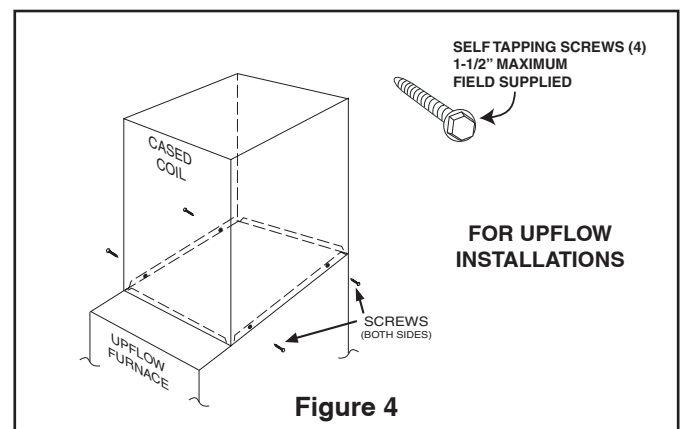

Figure 4
- Set the coil case on top of the furnace. Connect the furnace and ductwork to the coil case using field supplied screws. See Figure 4.